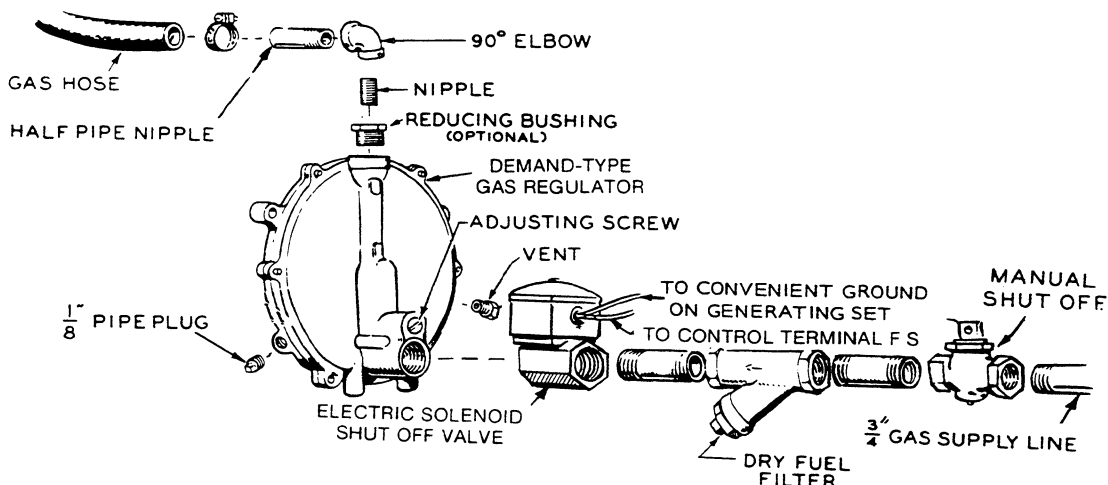

FIGURE 4. CONNECTIONS FOR GAS LINE TO CCKB
**Fuel Connection (Gaseous):** For gaseous-fueled generating sets, check with your local supplier for gas and pressure regulations. See Figure 4. Provide a manual gas shutoff. A filter in the line may also be necessary. Electric solenoid shutoff valves are usually required for indoor automatic or remote starting installations. Connect the solenoid wires to the battery circuit to open the valve while the unit is running. Also install a demand-type regulator and locate it near the generating set to aid starting (regular line pressure must be within 2 to 8 ounces [57 to 227 g]).